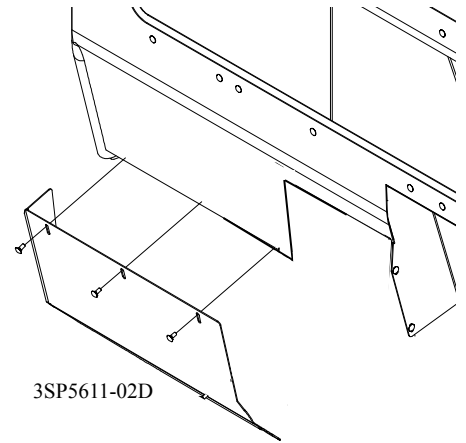

FIG. 5
B. Locate the Recessed Panel (3RP5611-02), align it with the holes in the Partition. Secure using the 1/4-20 x 5/8" (3X36) bolts and whiz nuts (3X16Z) supplied hardware in the kit. (See Fig. 5)